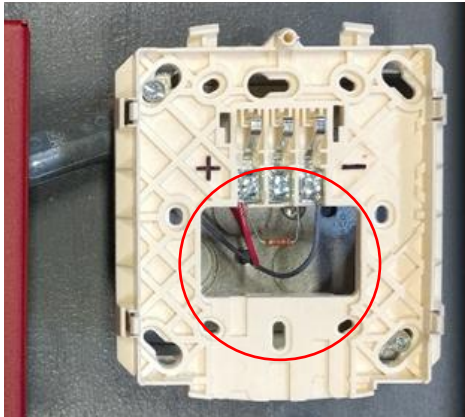

Figure 3
3. See **Figure 3**. Visually inspect Signal Horn base-plate connections. Locate positive and negative terminals on base-plate. **NOTE:** **RED** wire connects to positive terminal; **GRAY** wire connects to negative terminal.
4. See **Figure 3**. Locate **end-of-line resistor**; factory installed between positive and negative terminals on Signal Horn base-plate.